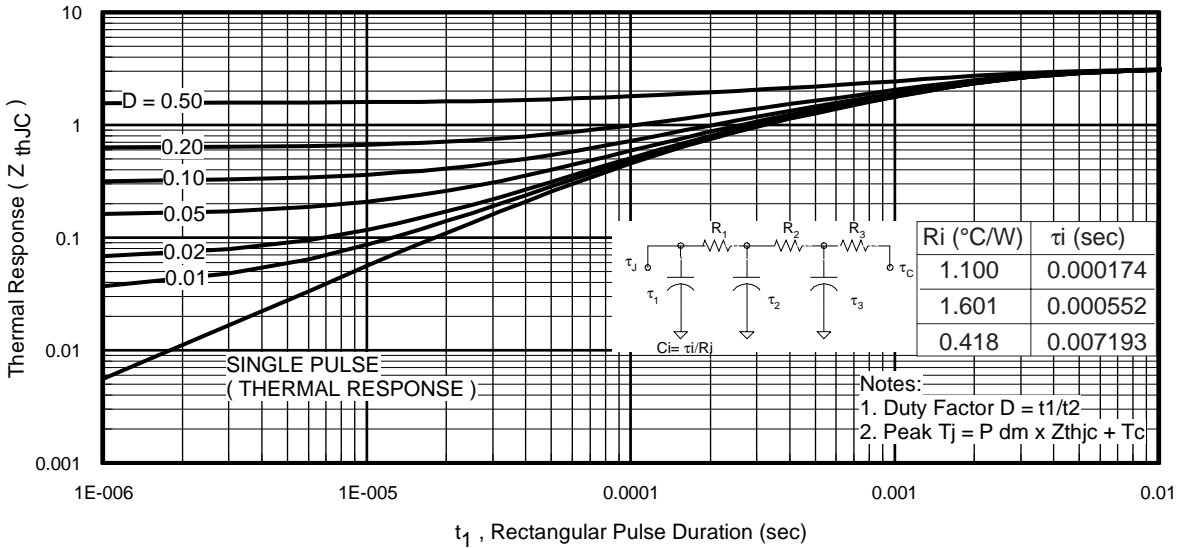

Fig 11. Maximum Effective Transient Thermal Impedance, Junction-to-Case
$Z_{thJC}(D, t_{av})$ = Transient thermal resistance, see figure 11)
- ① Repetitive rating; pulse width limited by max. junction temperature. (See fig. 11).
- ② Limited by T_{Jmax} , starting $T_J = 25^\circ\text{C}$, $L = 0.18\text{mH}$, $R_G = 25\Omega$, $I_{AS} = 18\text{A}$, $V_{GS} = 10\text{V}$. Part not recommended for use above this value.
- ③ Pulse width $\leq 1.0\text{ms}$; duty cycle $\leq 2\%$.
- ④ C_{OSS} eff. is a fixed capacitance that gives the same charging time as C_{OSS} while V_{DS} is rising from 0 to 80% V_{DSS} .